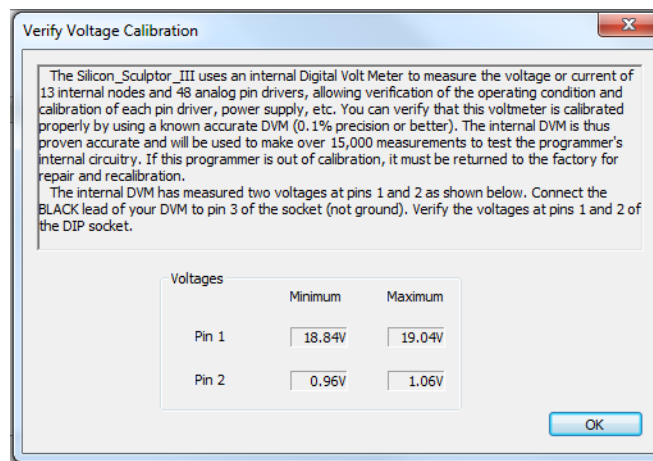

Figure 6: Verify Voltage Calibration Window
The program runs a quick check on some of the functions. The **Verify Voltage Calibration** window appears, as shown in Figure 6.
- a. Place the **red probe of the multimeter onto pin 1** and the **black probe onto pin 3**. Verify the reading is within the tolerance range displayed in Figure 6 and record these levels on the verification sheet.
- b. Place the **red probe of the multimeter onto pin 2** and the **black probe onto pin 3**. Verify the reading is within the tolerance range displayed in Figure 6 and record these levels on the verification sheet.